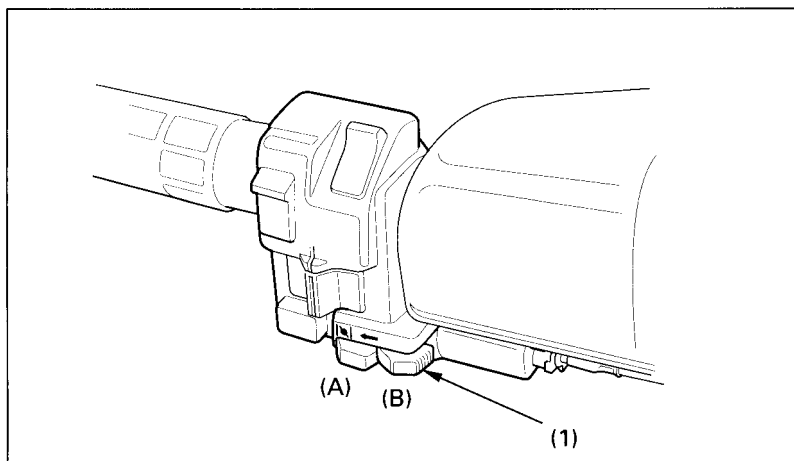

Fig. 2-7
The choke lever (Fig. 2-7) is next to the starter button. The choke has two positions: fully ON (A), and fully OFF (B).